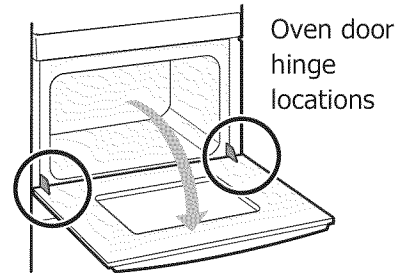

Figure 6: Door hinge location
1. Open oven door completely, horizontal with floor (See Figure 6).
3. Fully open the oven door, horizontal with floor See Figure 6).